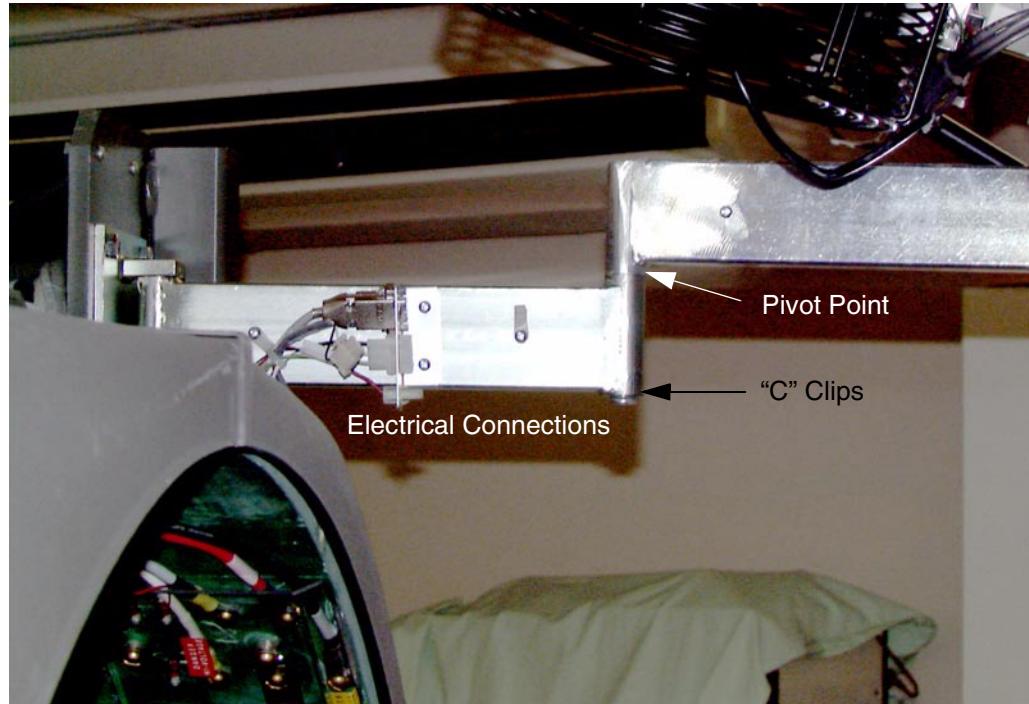

Figure 2-1 Rear Cover Hinge and Connections
- 4.) Turn off all three (3) switches on the status control box, on right side of Gantry.
- a.) Locate left hinge arm inside the rear cover, and disconnect the electrical connections leading to the top and rear covers. Reference Figure 2-1 on page 20.
- b.) Disconnect the two (2) wires leading to the rear cover lamp.
- a.) Remove "C" clips. Reference Figure 2-1.